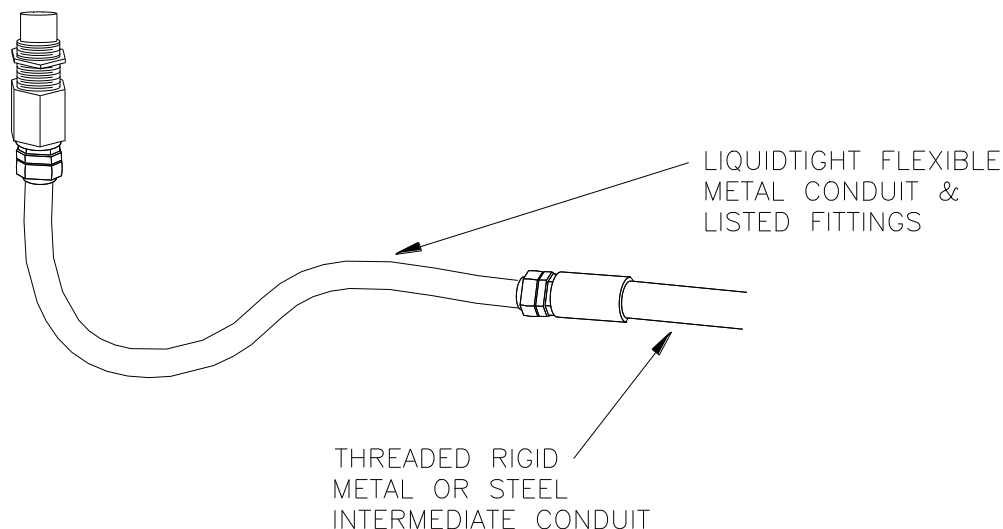

Figure 30. Speed Sensor with Mounting Hardware
7.3.2. SPEED SENSOR (103637) is an *Inductive Proximity Switch* identical to the Turck P/N Ni10-G18-AN6X. Each time the sensor detects the target, it switches from OFF to ON state. The sensor provides a pulse to the Motion Module. It is a three-wire, current-sinking (npn type). It gets its power from the RPM-Speed Board and provides signal input for a single channel. This sensor is presently FM Approved for use in Class II, Division 2, Groups E F and G. Further testing was required to qualify this apparatus for Division 1. This sensor is connected to the BTA Motion Module which will be mounted in an ordinary location. See Figure 30.